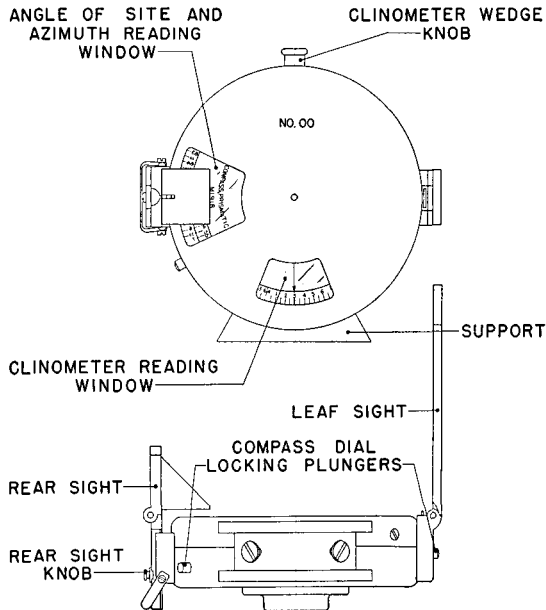

FIGURE 52.—Prismatic compass, M1918 (Sperry).
*e. Care and preservation.*—(1) See paragraph 58 for general instructions pertaining to care and preservation of instruments.
(2) Exposed moving parts should be oiled occasionally with a small quantity of neutral oil (or oil, lubricating, for aircraft instruments and machine guns for temperatures below 32° F.). Interior parts are not to be lubricated. Wipe off excessive lubricant to prevent accumulation of dust and grit.
(3) When storing aiming circles equipped with instrument lights, remove flashlight cell from battery case and place it in the compartment of the aiming circle carrying case.
**53. Compass, prismatic, M1918 (Sperry).**—This instrument (fig. 52) is used for measuring angles of site, clinometer angles, and magnetic azimuths.